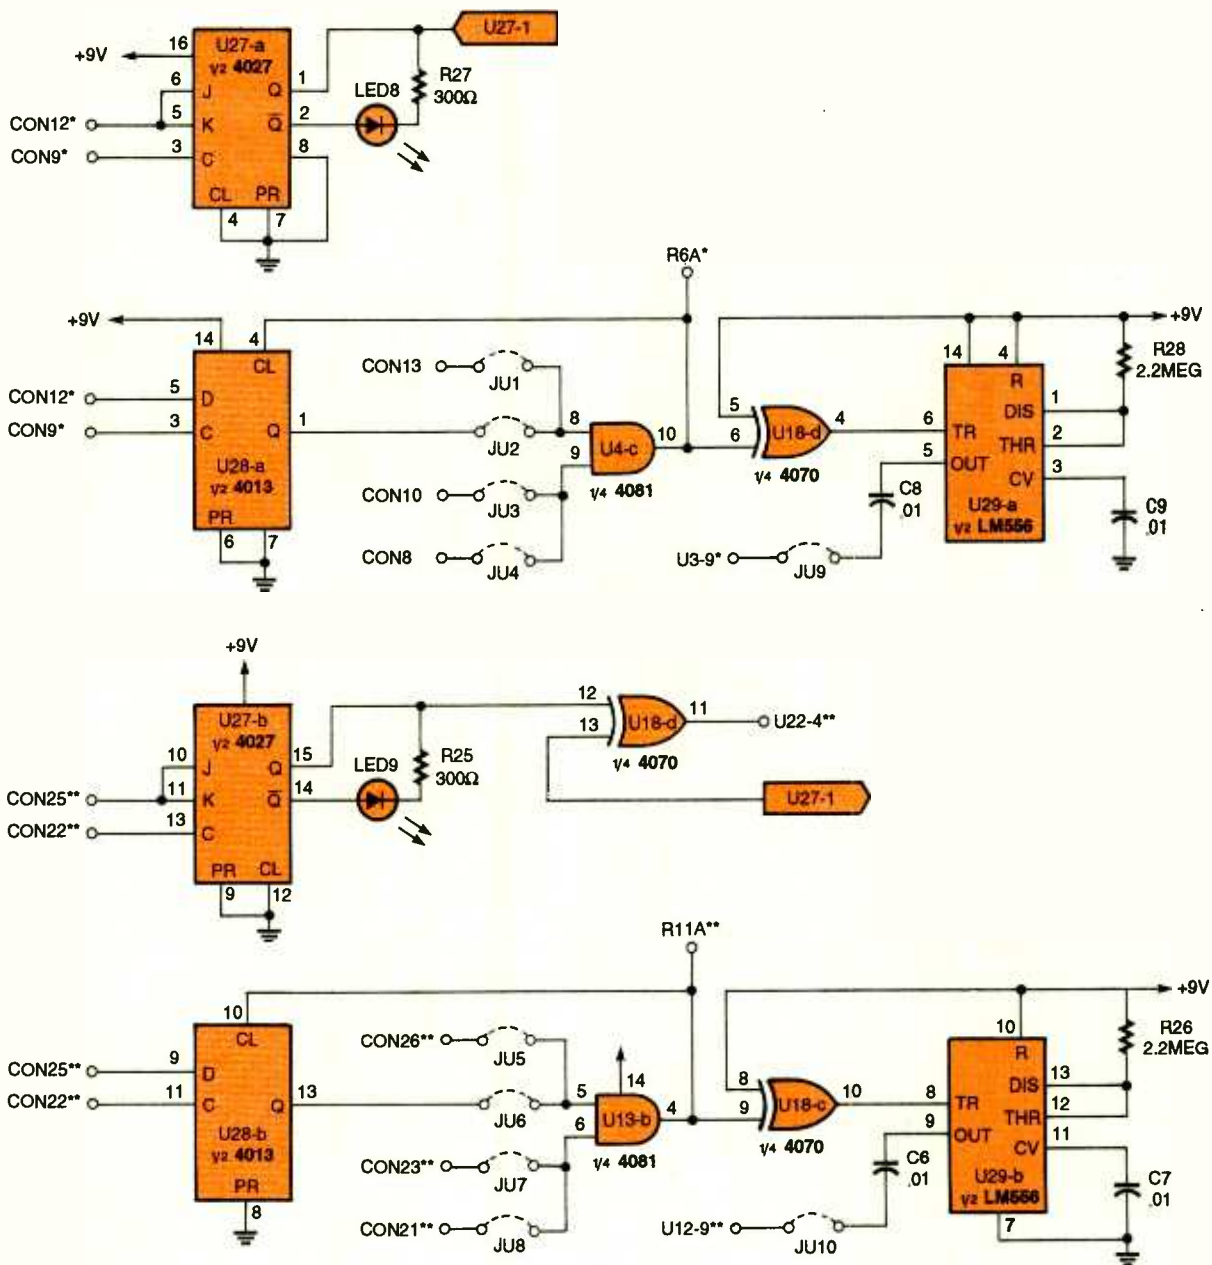

Fig. 3. This is the circuit that enables 24-hour operation. Note that jumpers J1, J3, J5, and J7 must be installed.
***SEE FIG. 3
**SEE FIG. 3
two high outputs from the NOR gates cause AND-gate U11-c's output to go high at point LAB1, which is used in Fig. 1 to drive the buzzer and alarm LED. The remaining circuitry, shown in Fig. 3, enables 24-hour operation. Note that jumpers J1, J3, J5, and J7 must be installed, as shown.